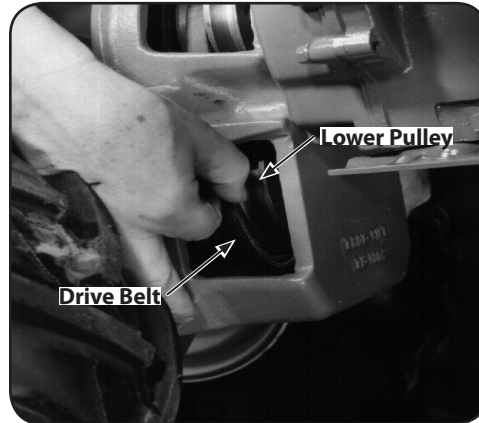

Figure 5-25
3. Use your right hand to move the belt down and away from the lower pulley, in the direction of the engine. See Figure 5-25.